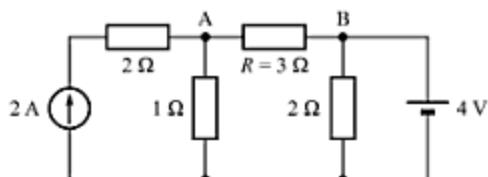

Fig. 4.36
- Determine the current through  $R = 3\text{ }\Omega$  resistor (from A to B) in the circuit shown in Fig. 4.36, using superposition theorem.